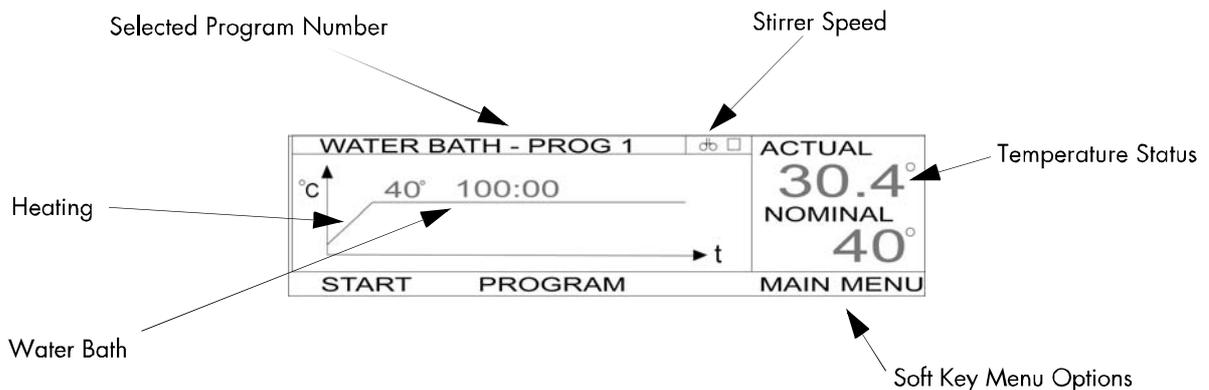

Figure 4.3: The WATER BATH PROG [#] screen
Figure 4.3 illustrates the progress of the WATER BATH cycle as displayed on the WATER BATH PROG [#] screen
1. Press **WATERBATH** on the Start Display (see section 3.4.1). The WATER BATH PROG [#] screen appears (see figure 4.3)